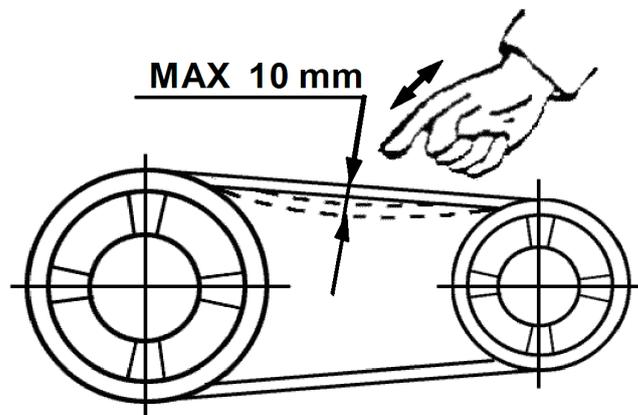

FIG. 1
- Check belt tensioning by measuring belt tightness. Correct tightness results when belt deflection along the front side of the belt is 1 cm, as a result of the pressure applied with the index finger to the centre of the belt length (see fig. 1).